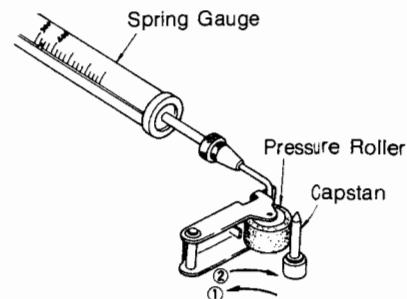

FIG. 15
2. Hook Spring gauge to arm of pressure roller, as shown in Fig. 15.